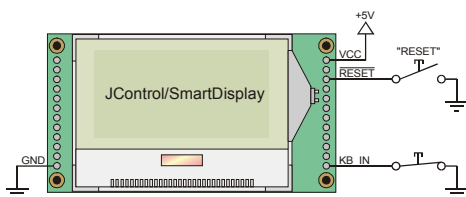

Fig. 5: Entering the System Download Mode
- (3) The system download mode may be enforced by pulling Pin 13 (GPIO #11/KB_IN) to GND while resetting the device (as shown in Fig. 5). Refer to the chapter covering the Analog Keyboard.
- (4) The mode may also be started by software calling the `run()`-Method of an instance of the built-in class `jcontrol.system.Download`.